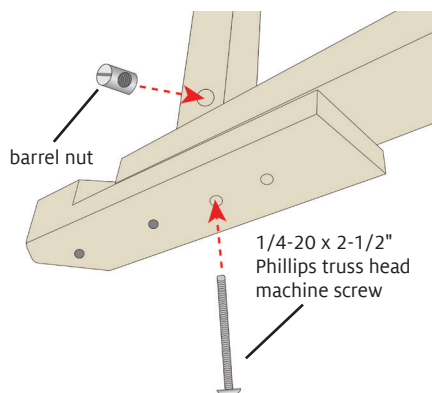

FIGURE 3: REATTACH REAR LEG BRACE
3. Reattach the rear leg brace: From the outer side of the LO height extender block, insert a 1/4-20 x 2-1/2" Phillips truss head machine screw into the second hole from the top, then partway through the left outside leg (Figure 3). Fit the pin of the rear leg brace into the small hole of the left outside leg. Insert a barrel nut into the hole of the rear leg brace, holding it in place with a slotted (flat) screwdriver. Fully tighten the 1/4-20 x 2-1/2" Phillips truss head machine screw into the barrel nut.